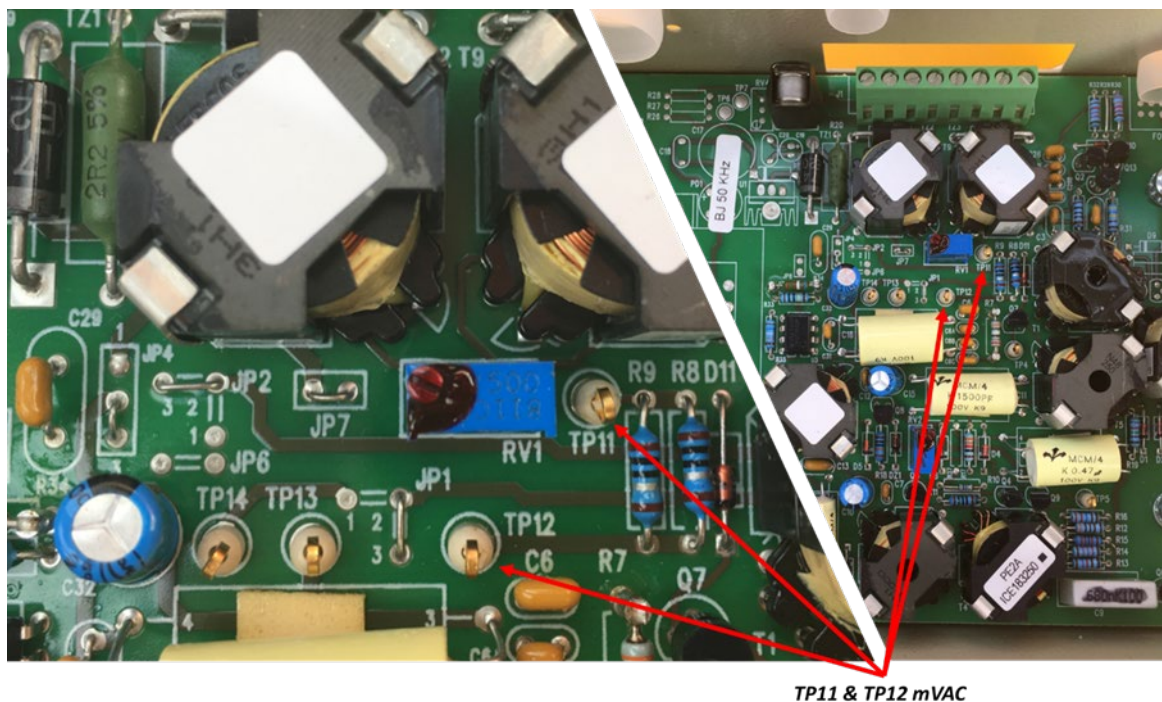

Figure 2 - BJ Unit TP11 & TP12
- 2.5 Measure using a True RMS multimeter (TPWS meter) measure the mVAC between TP11 and TP12 (See Figure 2) the readings should fall between 26.5 – 29mV for an existing installation.